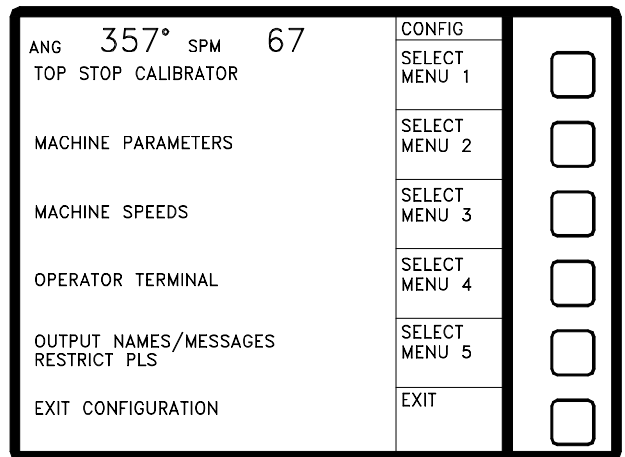

Figure 6.1: OmniLink Main Configuration Screen
- ◆ With the Run/Prog keyswitch in the “Prog” position, push the “CONFIG” softkey. Note that this softkey will not be present unless the unit is in program mode. After entering the access code, a screen similar to Figure 6.1 should appear.